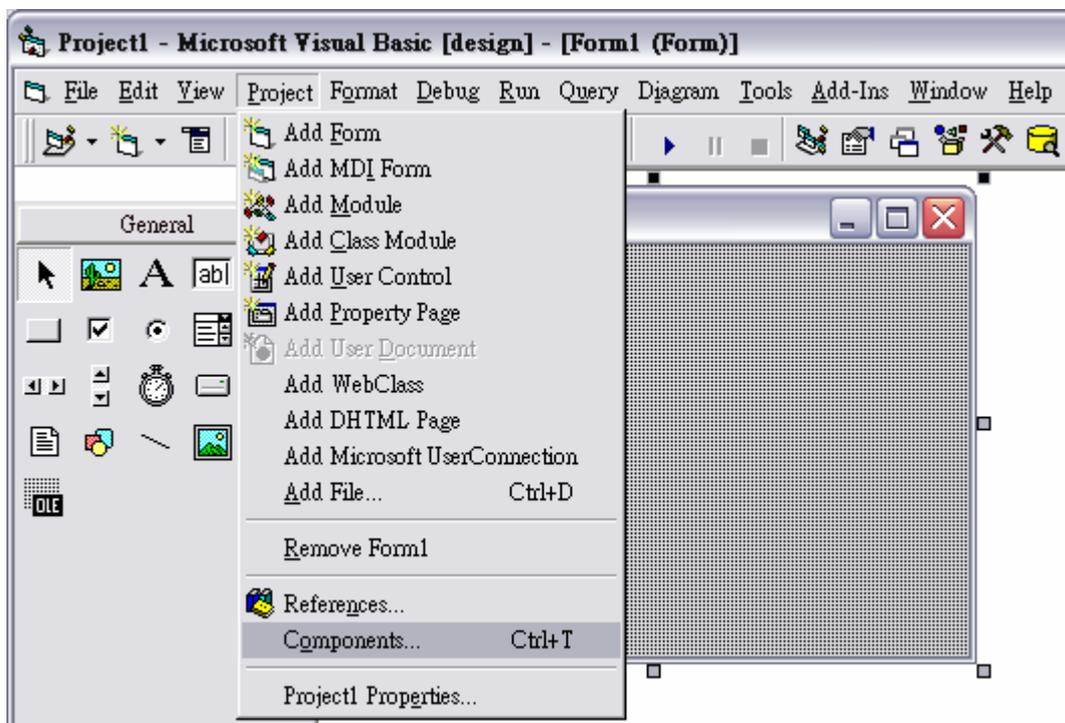

Figure 16.
1. Start Microsoft Visual Basic version 6.0 or Visual C++ 6.0 compiler as shown in Figure 16. (Upgrading Visual Basic or Visual C++ to service pack 5 or later is suggested). Here, we use Microsoft Visual Basic 6.0 as the reference platform.